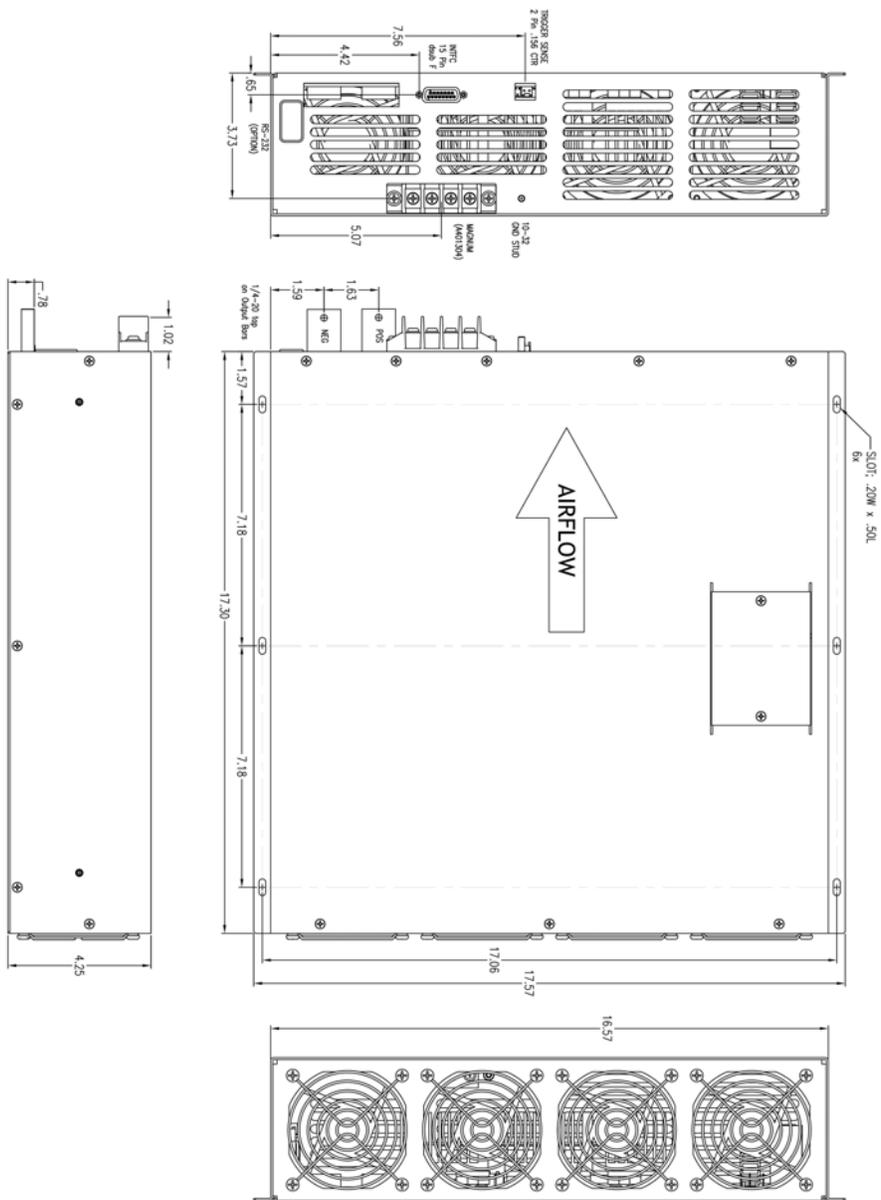

Figure 4. LDD-6000 Mechanical Outline Drawing
1. **Installing the power supply.** Refer to Figure 4, the LDD-6000 Outline Drawing. There are two 8-32 threaded PEM holes on both sides of the power supply which can be used to mount rack slides. Also, there are four 10-32 threaded PEM holes on the bottom of the supply for mounting purposes. The mounting screws should not penetrate the power supply more than 1/4"